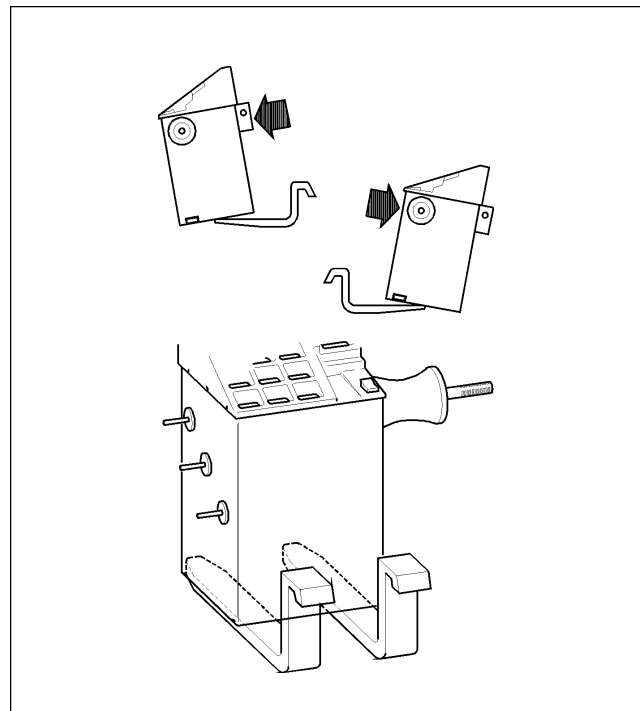

Fig.62
- Hold the machine as depicted in Fig. 62.